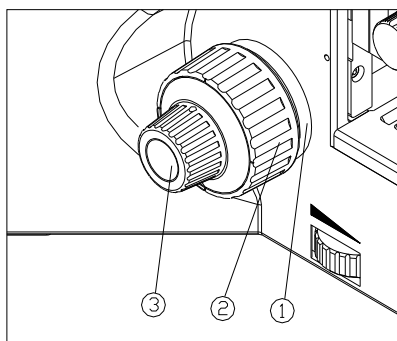

Fig.16
(1) Put the slice on the stage, hold it with the stage clip. Shift the 5X objective into the light path.
(2) Loosen the coarse adjusting limit knob①, observe the right eyepiece with the right eye. Rotate the coarse focusing knob② until the image appears in the view field, then lock the coarse adjusting limit knob①. (see Fig. 16)